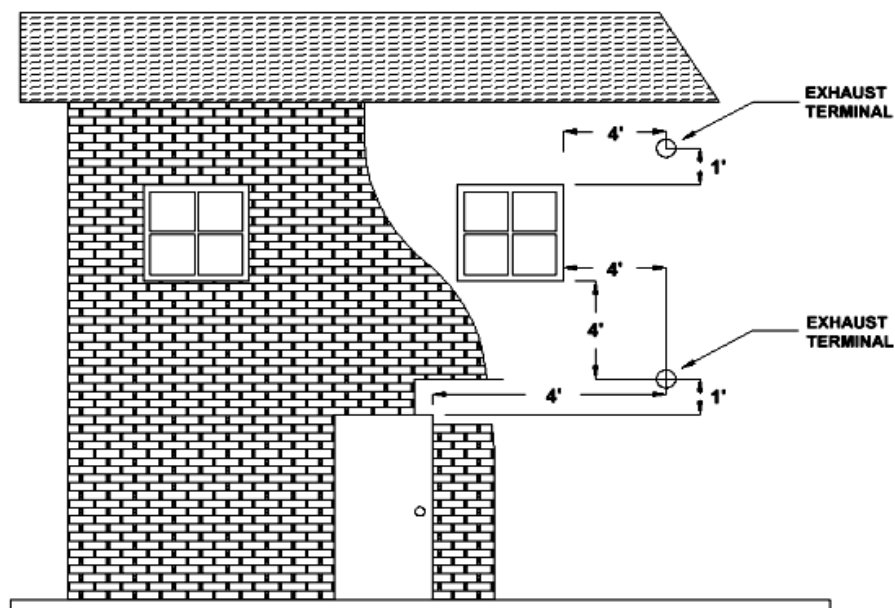

Figure 4a
- a. **Without** Outside Air connected to the unit. For These types of installations please refer to the dimensions listed below in figure 4a.